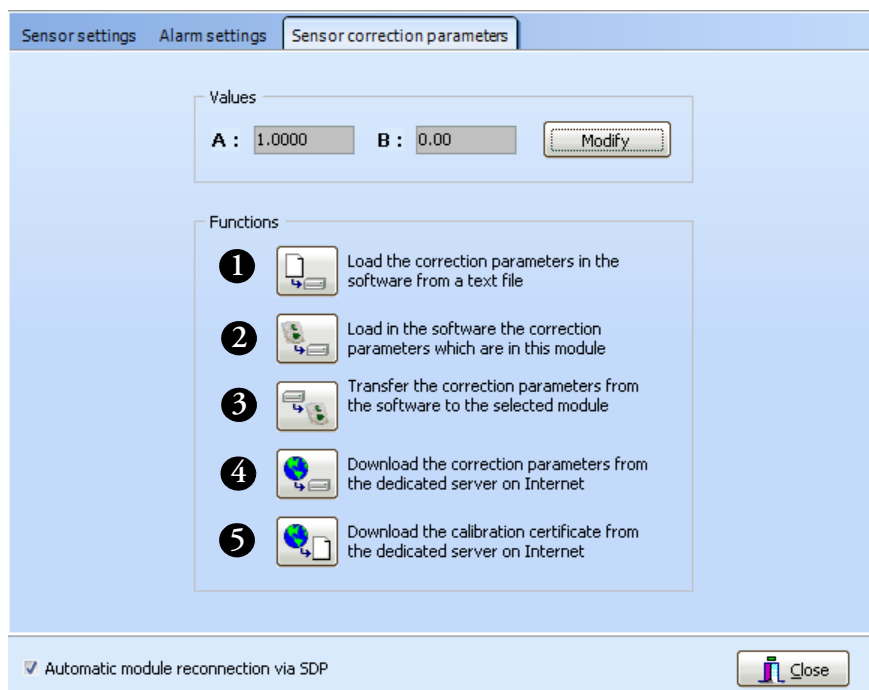

Figure 47. Correction parameters window
- Import correction parameters from a text file (**#1 in Figure 47**).